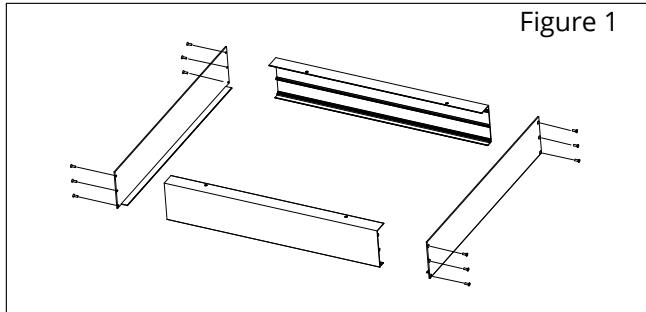

Figure 1
- 1** Carefully remove the accessories from the package. Assemble the four-piece surface mount kit using the provided KA4\*12 Cross countersunk head self-tapping screws (refer to Fig 1)